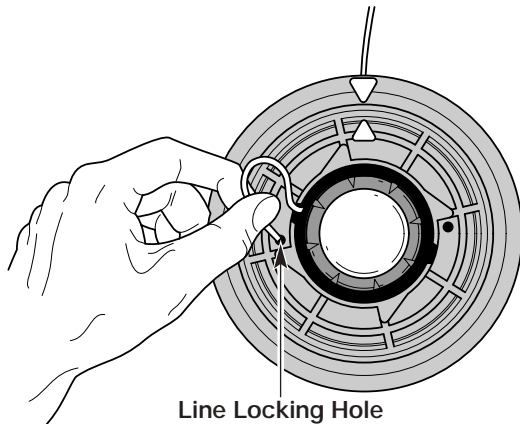

Fig. 38
5. Insert the line into the locking hole (Fig. 38). Do not push the line more than a 1/2 inch (12.7 mm) into the line locking hole. The line will form a small loop (Fig. 38) when it is inserted correctly.